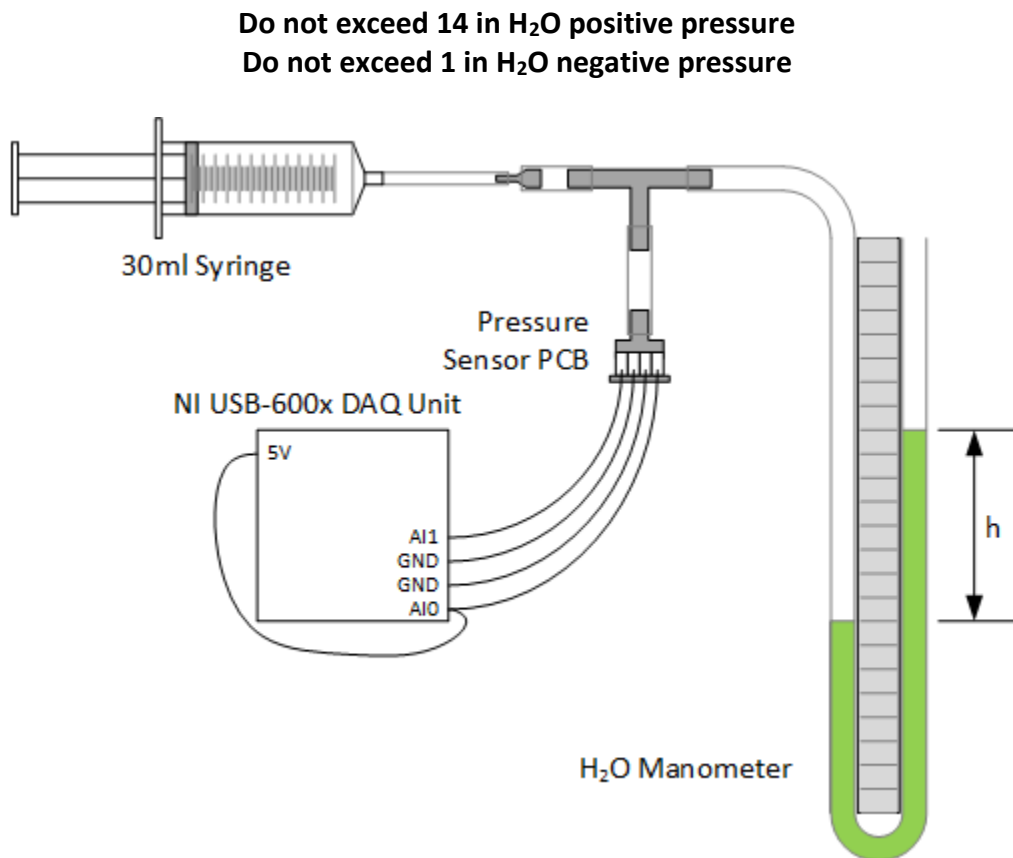

Figure 1. Pressure Sensor Experiment Apparatus Setup
The MPVZ5004G pressure sensor produces a nominal output voltage range of 1.0V – 4.9V for an input gauge pressure range of 0 – 3.92 kPa (0 – 15.8 in H2O). In this experiment, the transfer function for this sensor will be determined by varying the system pressure while measuring the sensor output voltage. Figure 1 shows the basic setup of the experiment.
1. Connect the plumbing diagram as shown in Figure 1 **except for the pressure sensor**.